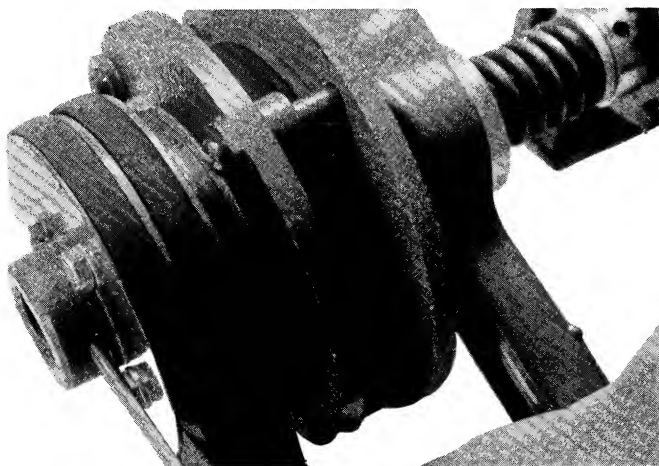

FIGURE 15. REMOVING ROLL PIN
1. Drive out the roll pin with a drift and a hammer. See Figure 15.